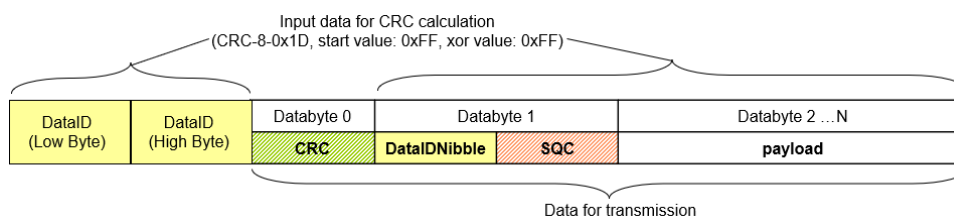

Figure 3.3. Layout of the protected message including control data (CRC, SEQ) with explicit transmission of data ID nibble (`dataIdMode=3`)
- ▶ **Explicit transmission of data ID nibble** (dataIdMode=3): Both bytes of the 16-bit data ID are attached to the safety data for CRC calculation, but the low nibble of the high byte of the data ID is explicitly transmitted. Only 12 bits are used in this 16-bit data ID and the high nibble of the high byte is set to 0. The bit-offset of the data ID nibble value within a transmitted signal group is configurable, but must be aligned with respect to nibbles. To be able to use this data ID inclusion mode together with the data ID inclusion mode **Both bytes**, the CRC is calculated over the low byte of the data ID and the high byte which is set to 0. For more information on explicit transmission of data ID nibbles, see [Figure 3.3, “Layout of the protected message including control data \(CRC, SEQ\) with explicit transmission of data ID nibble \(dataIdMode=3\)”](#).
Figure 3.3, “Layout of the protected message including control data (CRC, SEQ) with explicit transmission of data ID nibble (`dataIdMode=3`)” shows the layout of the AUTOSAR E2E Profile 11 with a CRC offset of 0 bits and a sequence counter/alive counter offset of 8 bits and a data ID nibble offset of 12 bits as used for `dataIdMode=3`.